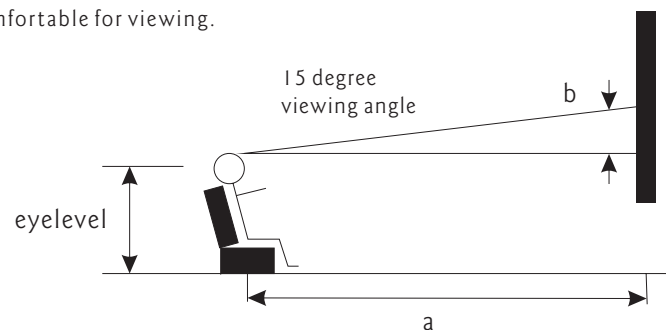

Fig 3a
- 1) the distance between wall and couch (Fig 3a).
- 2) the distance of eyelevel from ground level plus the distance measured from eyelevel of a person sitting on couch with viewing angle of 15° (Fig 3a).